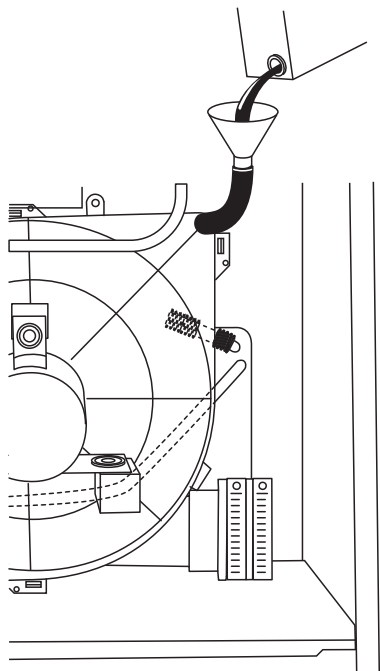

Fig. 49 - Filling Condensate Trap
4. Pour 1 quart of water into funnel/tube. Water should run through inducer housing, overflow condensate trap, and flow into open field drain. (See Fig. 49.)